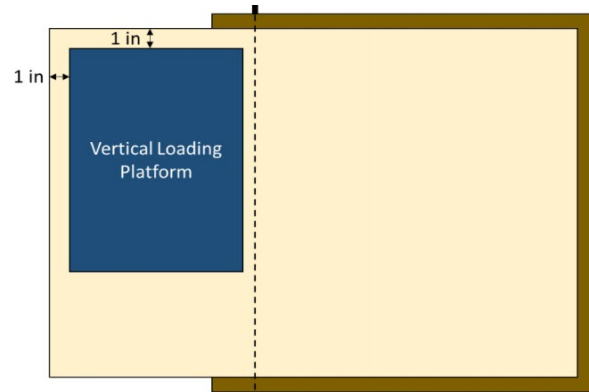

Figure 3: Vertical Surcharge Placement
- III. **Construction Stage:** After the wall assembly is completed the judges will initiate the construction phase. This will include filling the backfill material into the sand box until it reaches the sand fill line is covered and the backfill is leveled. Placement of a rectangular vertical surcharge bucket will mark the end of this stage (Figure 3), twenty (20) minutes will be allotted for this stage.